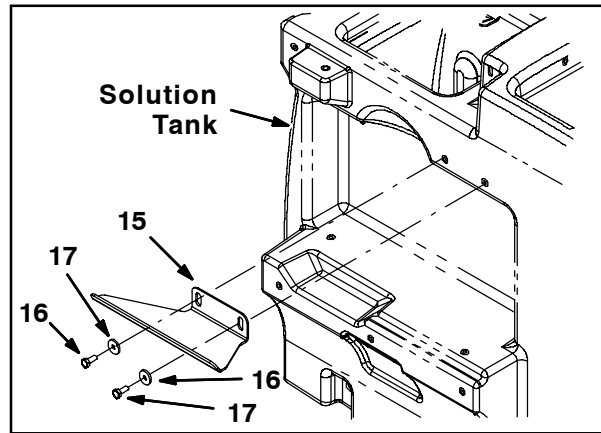

FIG. 8
27. Use two hex screws (16) and two flat washers (17) to install the spray wand mounting bracket (15) onto the recovery tank. Refer to Fig. 8.
*NOTE: The spray wand mounting bracket (15) only needs to be installed if the machine is not already equipped with a bracket. Discard the new bracket or replace old existing bracket with new bracket.*